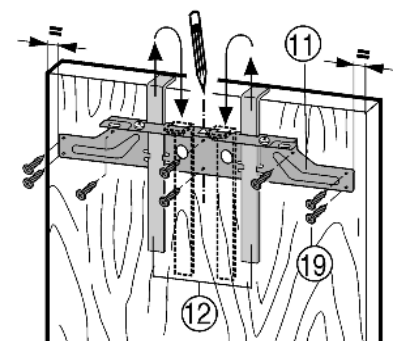

Fig. 17
- ▶ Attach fastening crosspiece Fig. 17 (11) to the inside of the unit door using the assembly aids Fig. 17 (12).
- ▶ Centre fastening crosspiece Fig. 17 (11): mark a short centre line on the unit door and place the tip of the cross-piece arrow over it.
- ▶ Secure the fastening crosspiece Fig. 17 (11) with at least 6 screws Fig. 17 (19).
- ▶ Secure the fastening crosspiece Fig. 17 (11) with 4 screws Fig. 17 (19) at the edge.
- ▶ Raise the assembly aids Fig. 17 (12) for removal, turn them and insert them into the adjacent openings.